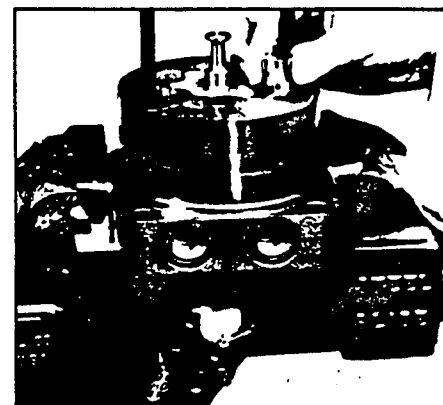

Figure 73
5. Grasp the output end of coupling shaft (12) with locking pliers or other appropriate turning device and rotate coupling shaft, drive link and rotor to seat the rotor and the assembled vanes (8C) into stator (8B), creating the necessary clearance to assemble the seventh or full complement of seven vanes. Assemble the seven vanes using minimum force. SEE FIGURE 73.